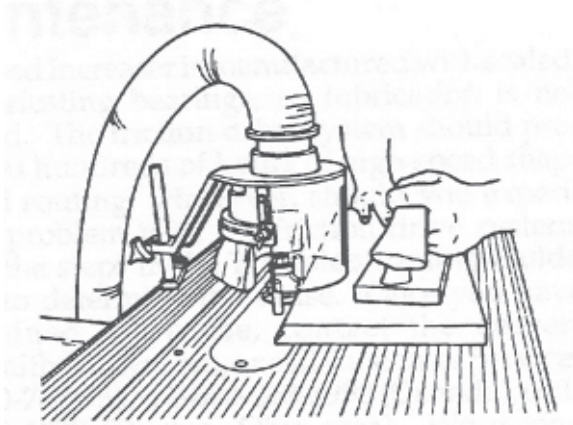

Figure D-75
9. Attach a dust collector hose to the opening in the top of the guard, as shown in Figure D-75.